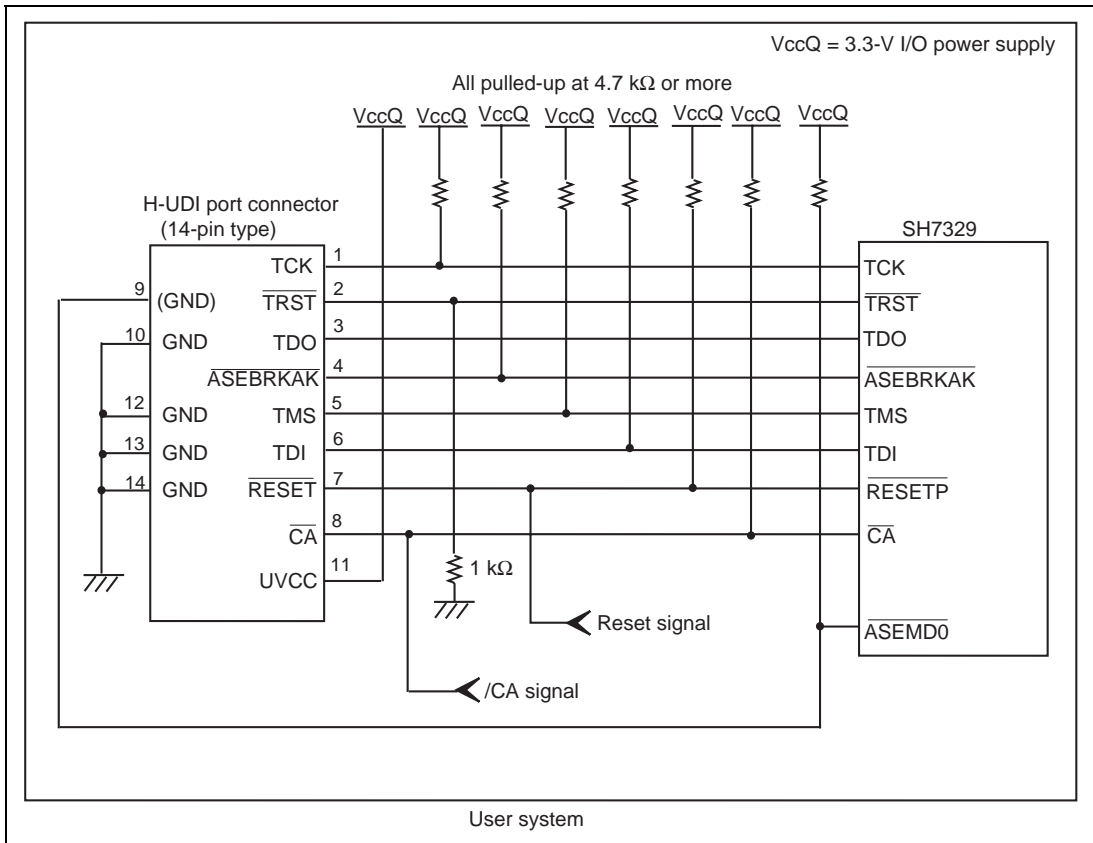

Figure 1.4 Recommended Circuit for Connection between the H-UDI Port Connector and MPU when the Emulator is in Use (14-Pin Type UVCC Connected)
Figure 1.4 shows a recommended circuit for connection between the H-UDI and AUD port connectors (14 pins) and the MPU when the emulator is in use.
- (1) When the emulator is used: /ASEMD0 = 0
- (2) When the emulator is not used: /ASEMD0 = 1Figure 1.4 shows an example of a circuit that allow the /ASEMD0 pin to be GND (0) whenever the emulator is connected by using the user system interface cable. When the /ASEMD0 pin is changed by switches, etc., ground pin 9. Do not connect this pin to the /ASEMD0 pin.
8. Since the H-UDI and the AUD of the MPU operate with the VccQ, supply only the VccQ to the UVCC pin. Make the emulator's switch settings so that the VccQ will be supplied (SW2 = 1 and SW3 = 1) (as shown in figure 1.4).
When the circuit is connected as shown in figure 1.4, the switches of the emulator are set as SW2 = 1 and SW3 = 1. For details, refer to section 3.8, Setting the DIP Switches, in the Debugger Part of the SuperH™ Family E10A-USB Emulator User's Manual.